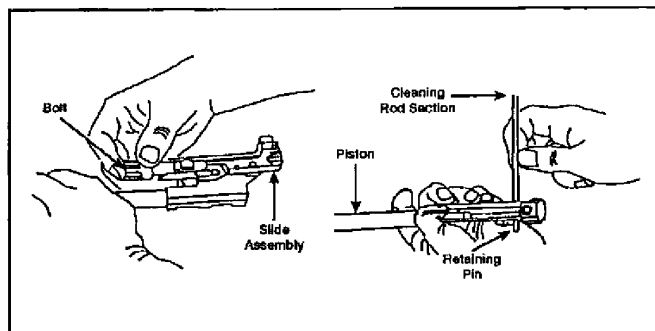

Figure 071-312-4025-5. Removal of the bolt and piston
c. Remove the heat shield. Hold the weapon with one hand. With the other hand, grasp the heat shield just forward of the barrel handle, and lift it off the barrel (figure 071-312-4025-6).